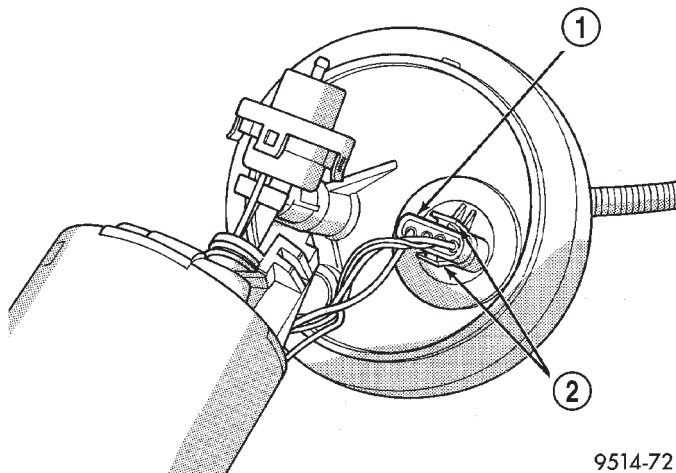

Fig. 18 Fuel Pump/Level Sensor Electrical Connector
(1) Depress retaining tab and remove the fuel pump/level sensor connector from the **BOTTOM** of the fuel pump module electrical connector (Fig. 18).